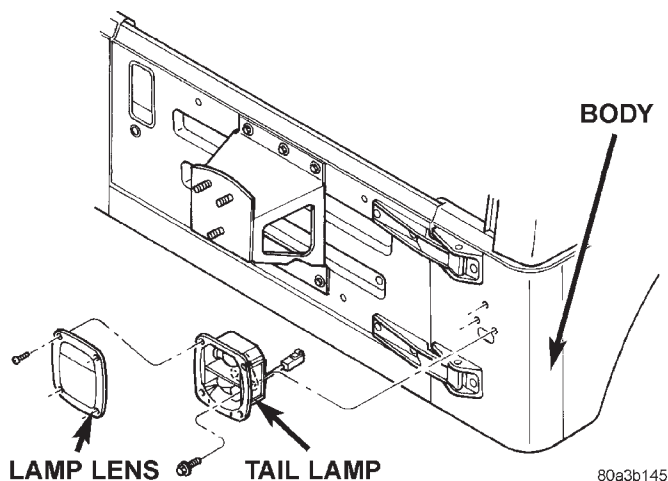

Fig. 5 Tail Lamp Housing
- (1) From the underside of the vehicle, remove the push-in fastener attaching the bottom rear edge of the rear wheelhouse splash shield to the body.
- (2) Pull the rear of the wheelhouse splash shield away from the body and reach upward to disengage the tail lamp electrical connector.
- (3) Remove the screws attaching the lens to the tail lamp housing.
- (4) Remove the bolts attaching the tail lamp housing to the body (Fig. 5).
- (5) Separate the lamp housing from the body.